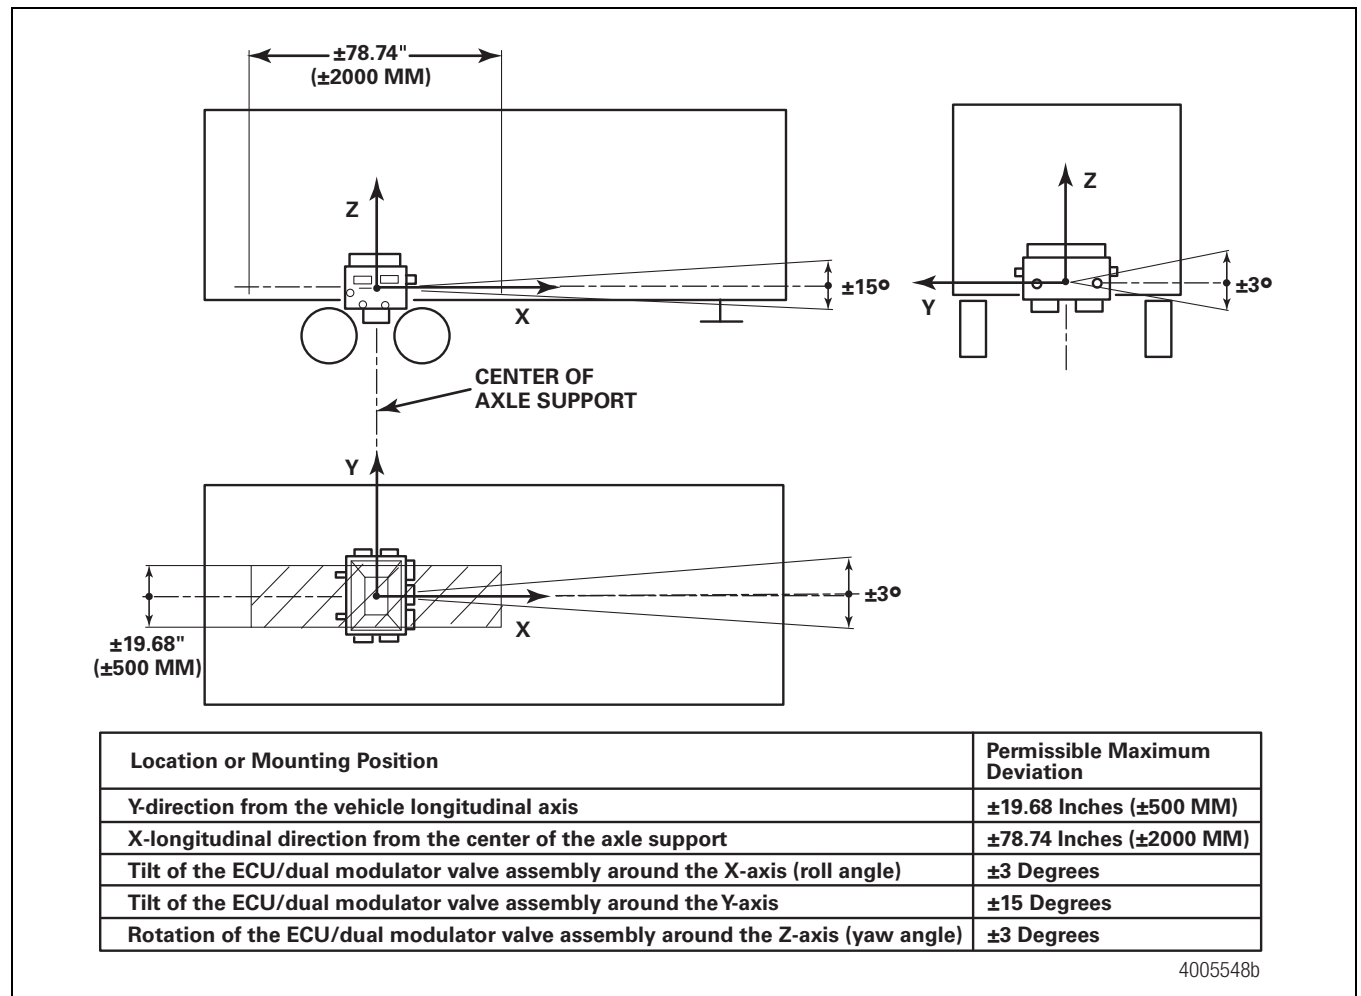

Figure 6.4
When mounting the ECU/dual modulator valve assembly to the trailer cross member, refer to SAE specification J447, *Prevention of Corrosion of Motor Vehicle Body and Chassis Components*. Follow all recommendations and procedures. Your supervisor should have a copy of this specification. Figure 6.4.
- Mount the ECU/dual modulator valve assembly in the center width of the trailer subframe, midway between the axle spacing. Figure 6.4.